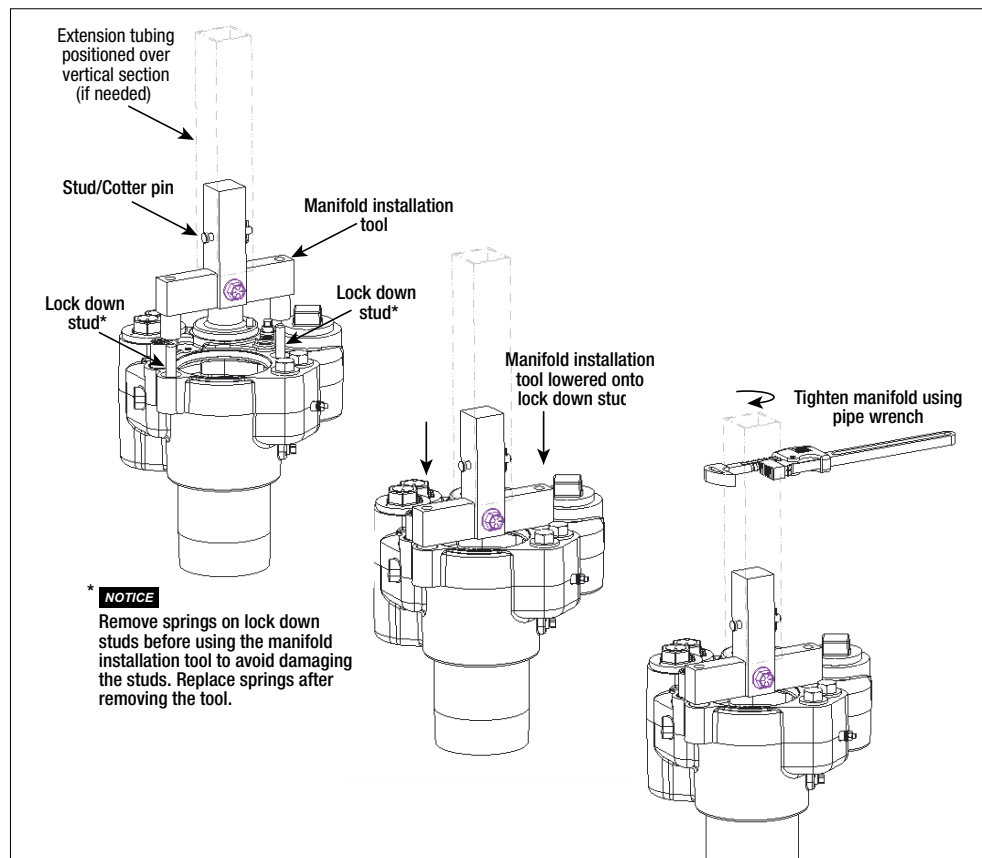

Figure 8. Utilizing the Manifold Installation Tool with RA Model STPs
**NOTICE** For all models with the 'RA' suffix, do not wrench on the powder coated packer/manifold, as this may damage the coating and cause corrosion. Use the manifold installation tool (P/N 410912-001) to tighten the manifold onto the riser pipe. Remove the two die springs which surround the lock-down studs. After the manifold is installed, remove the manifold installation tool and re-install the two die springs. Place the installation tool over the two lock-down studs as shown in Figure 8. If the installation tool handle needs to be extended, procure a piece of square tubing and slide it over the vertical handle and secure using the cotter pin.